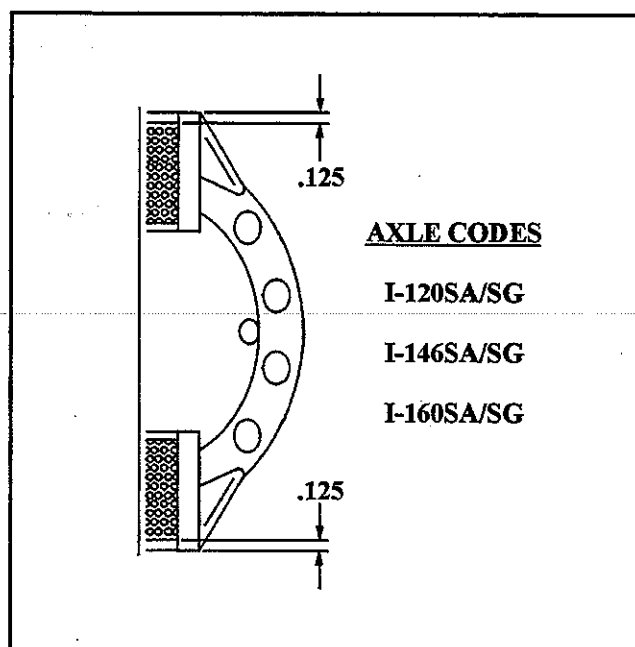

Figure 12—Bushing Seating Depth
3. Install the bushing to specified dimension. (See Figure 12—Bushing Seating Depth.)